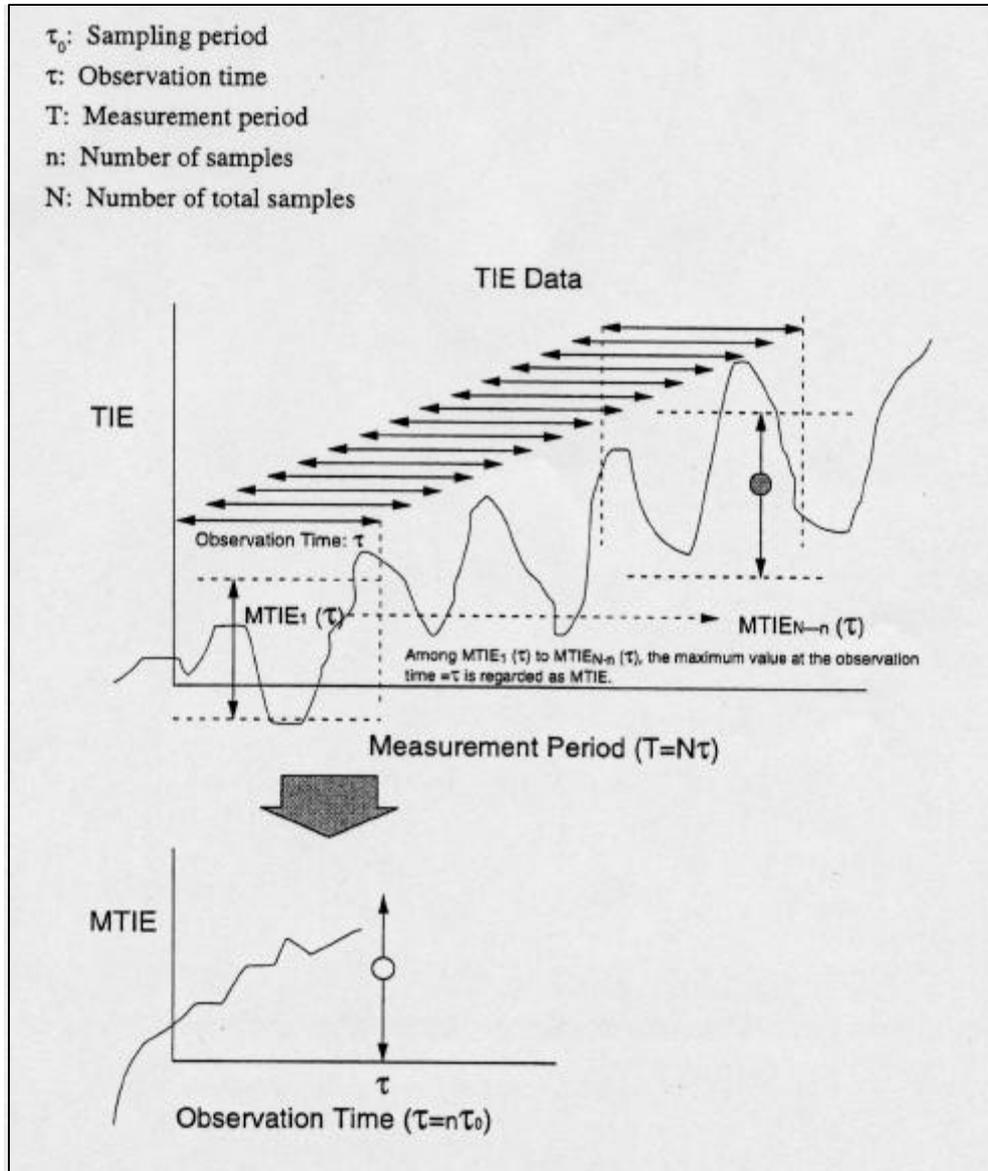

Fig. 3.3-1 TIE and MTIE
MTIE is measured by calculation from equation (1) based on the TIE data. When this measurement result is plotted as a graph, observation time ( $\tau = n \tau_0$ ) is plotted on the x-axis (Fig. 3.3-1).